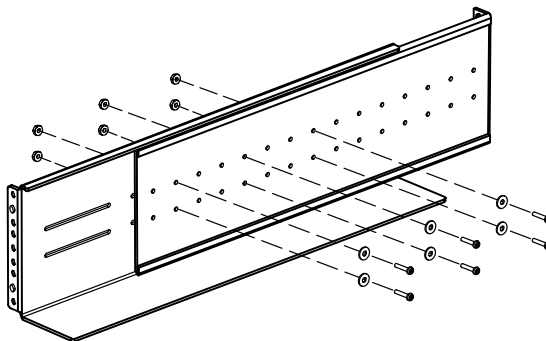

Figure 1. Assembling the Rails
3. Loosely assemble the left and right rails using six #6-32 × 0.75" screws, #6 flat-head washers, and #6-32 Keps nuts (see Figure 1).